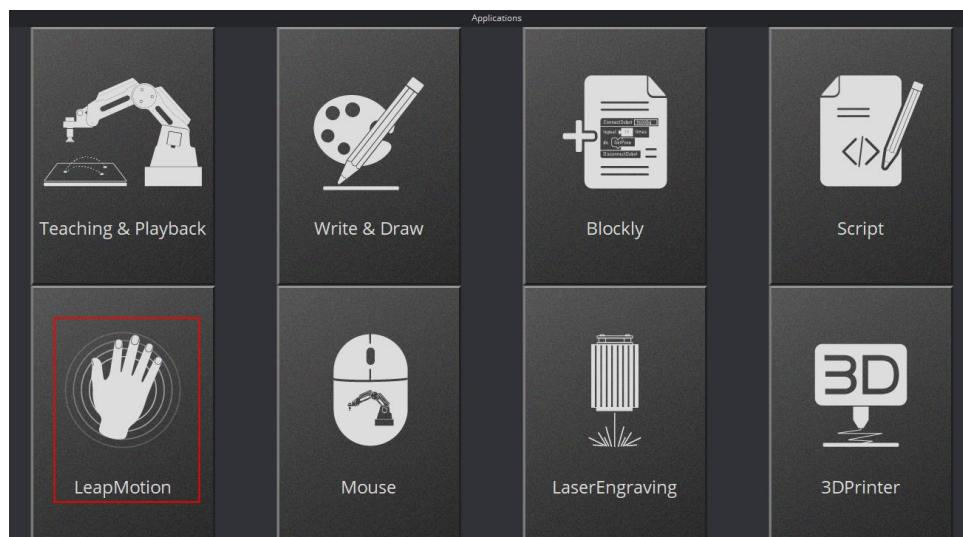

Figure 5.96 Click LeapMotion
**Step 2** Click **LeapMotion**, as shown in Figure 5.96.